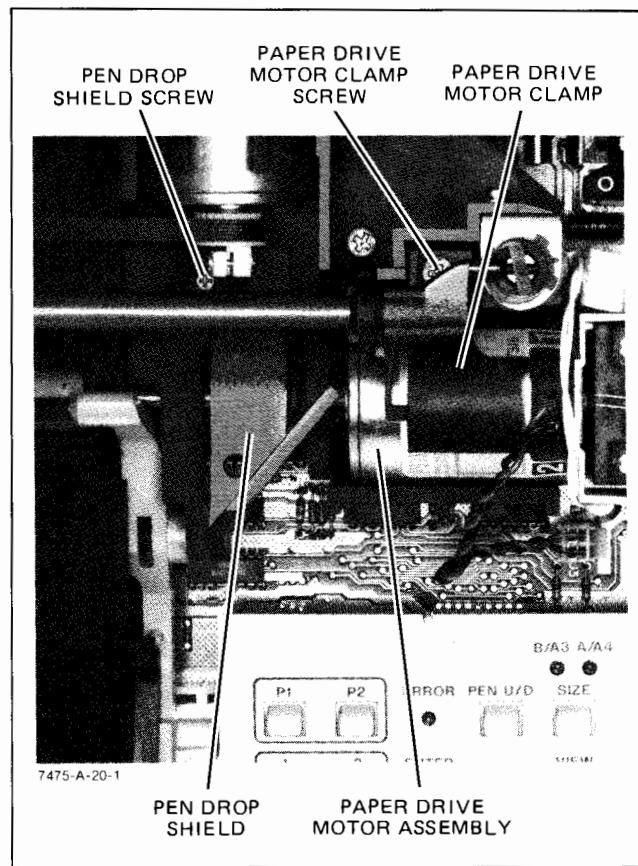

Figure 6-11. Paper Drive Motor Clamp and Pen Drop Shield
- c. Remove the pen drop shield. See Figure 6-11.
- d. Loosen the motor clamp and remove the motor from its mounting. See Figure 6-11.
- b. Loosen the paper drive motor clamp enough to slide the motor to the right about 2 cm (3/4 in.). See Figure 6-11. (Lift the right end of the motor slightly to release the motor from the chassis.)